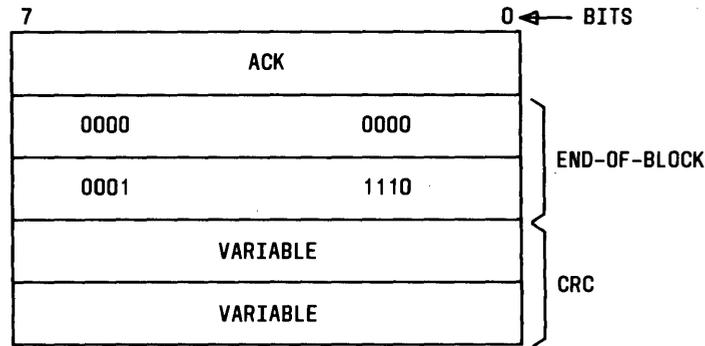

Fig. 5—Positive Acknowledgment Message
2.12 When the AMARC requires statistical information from a No. 3 ESS, the GTS command is transmitted. After receiving the command, the No. 3 ESS sends the acknowledgment (ACK) message (Fig. 5). It then forms the statistical and status message (SSM) and places it in the AMA buffer. The SSM data is transmitted in response to a transmit command and is imbedded in a data block.